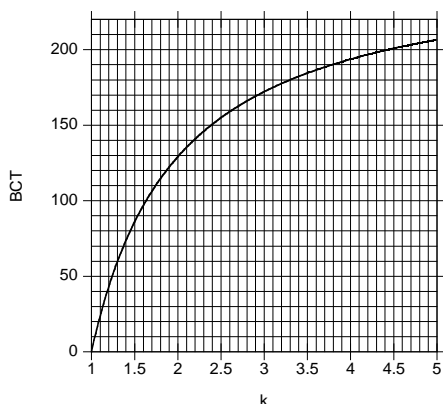

Figure 21: Relationship between the k Ratio and the Optimal BCT to Recover Linearity
Figure 21 shows the optimal BCT value for a particular k ratio.
The k ratio can be deduced from the error curve obtained with the default BCT setting (BCT = 0). Rotate the magnet more than one revolution and record the device's output. Then plot the error curve (the output minus the real mechanical position vs. the real mechanical position) and extract the two parameters: the maximum error (E) and the position of this maximum with respect to a zero crossing a_m (see Figure 21). k can be calculated with Equation (7):